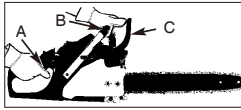

Fig. 10
3. Grasp the rear handle (A) with your right hand (Fig. 10).
4. With your left hand, hold the front handle (B) [not CHAIN BRAKE lever (C)] firmly (Fig. 10).
5. Squeeze the throttle trigger to 1/3 throttle, then immediately activate the CHAIN BRAKE lever (C) (Fig. 10).